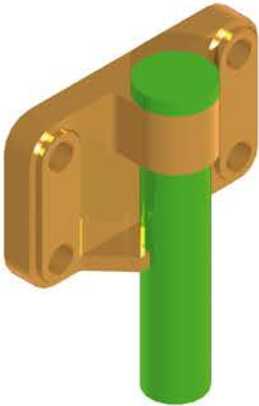

Fig. 19.14 First example – 3D models
FIRST EXAMPLE (FIG. 19.14)
7. **Isometric view.** Render. Adjust lighting and materials as necessary (Fig. 19.14).